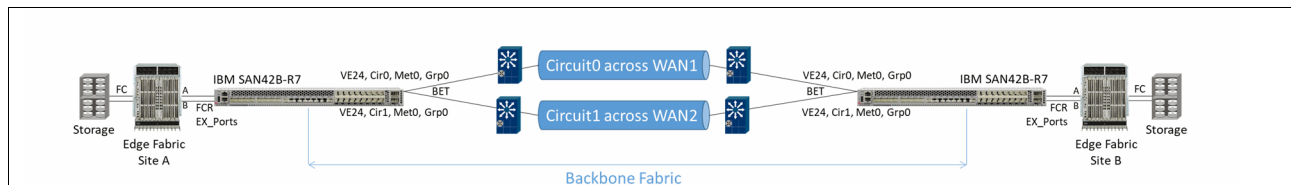

Figure 8-6 Edge-backbone-Edge extension with FCR
- ▶ An edge-backbone-edge architecture with FCR in which edge fabrics bookend a transit backbone fabric; see Figure 8-6 below. The backbone fabric has EX\_Ports that are outward-facing to the edge fabrics. Extension is located within the backbone fabric using VE\_Ports to communicate across the WAN.